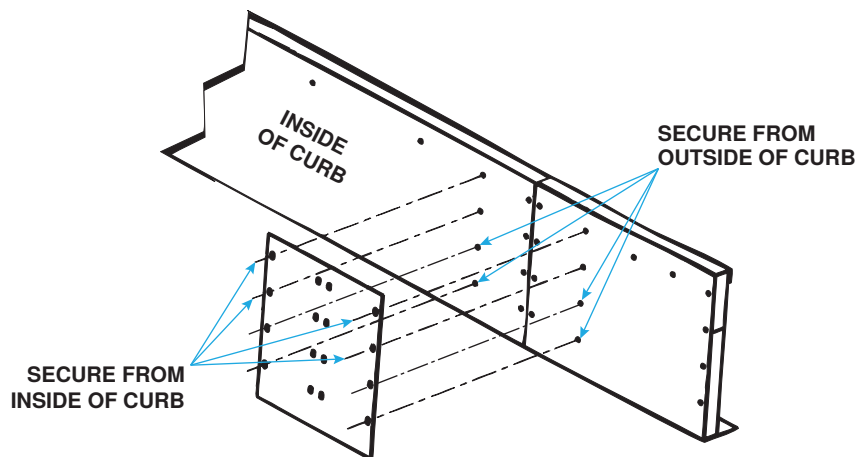

Figure 3. Splice Plate Detail
3. For curbs that have two-piece side rails, join rails together using splice plates as shown in Figure 3. To secure splice plate, install four lag screws and lockwashers in top holes from **inside** and four capscrews, lockwashers, and hex nuts in bottom holes from **outside** as shown.